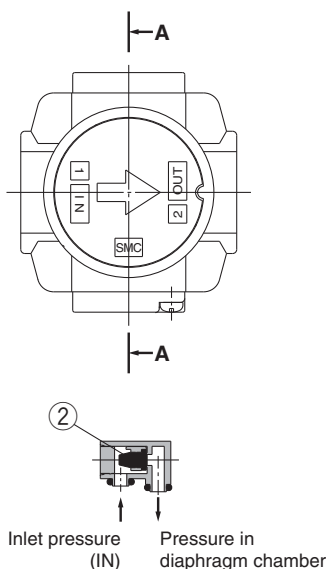
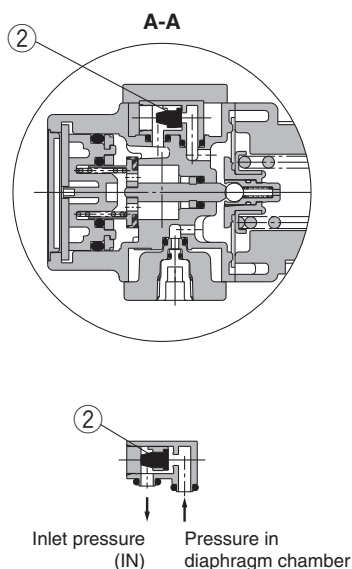

Figure 1 Normal
Figure 2 Backflow
When the inlet pressure is higher than the regulating pressure, the check valve ② closes and operates as a normal regulator (Figure 1). When the inlet pressure is shut off and released, the check valve ② opens and the pressure in the diaphragm chamber ① is released into the inlet side (Figure 2). This lowers the pressure in the diaphragm chamber ① and the force generated by the pressure regulator spring ③ lifts the diaphragm. The valve ④ opens through the stem, and the outlet pressure is released to the inlet side (Figure 2).